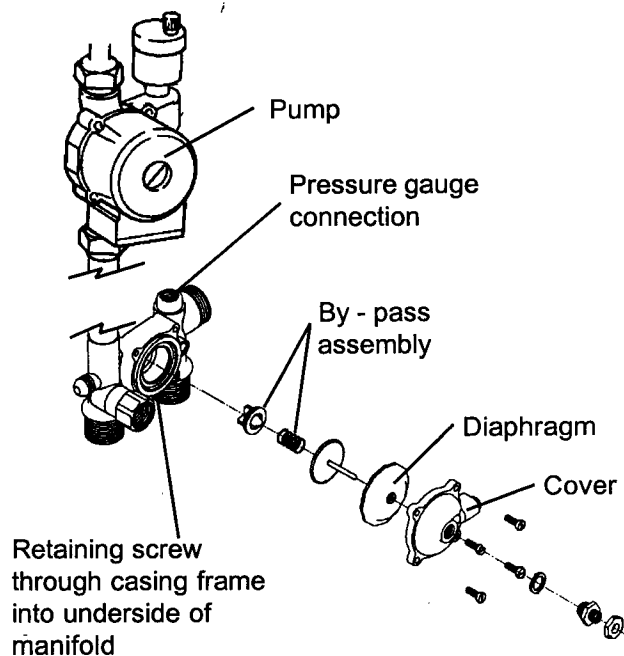

Fig. 33
Part No 3175 Refer to fig. 33
Refer to fig. 33 for location of components.
Part No 4302 Refer to fig. 33
- 8.18.3 Trace capillary from back of gauge to connecting point on heating manifold (fig. 33).